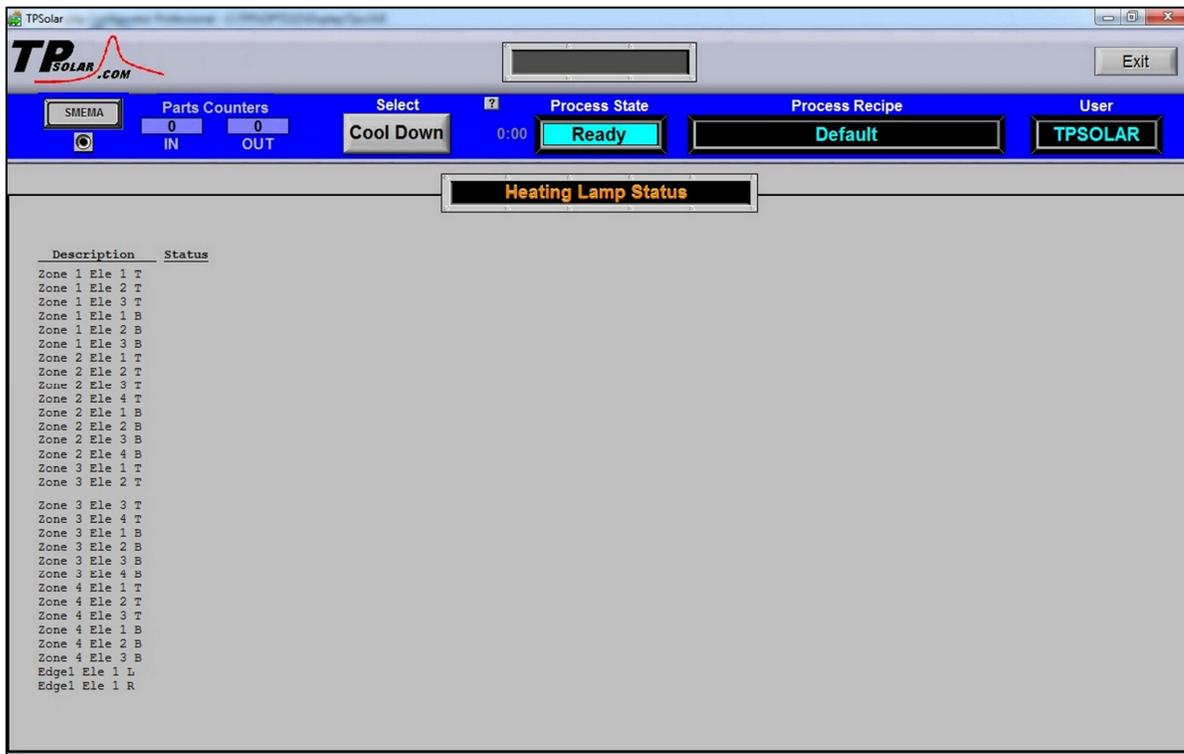

Figure 3-16 Lamps screen
If the Element Monitoring system (EM) is enabled, the Lamps screen displays the status of the heating elements by providing lamp string failure indication, Figure 3-16. The system checks for current flowing as power is applied and reports the integrity of each string polled. Status for each string remains blank until elements are polled. Strings indicating Fail must be examined further to determine the nature of the failure.